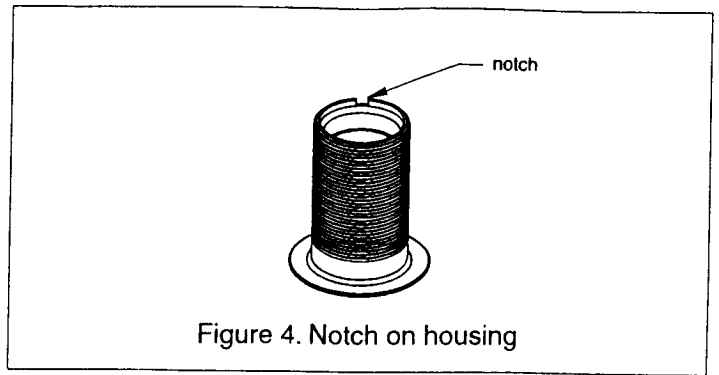

Figure 4. Notch on housing
- Screw the hull nut in place being sure the notch on the upper rim of the housing is still positioned forward toward the bow (see Figure 4).